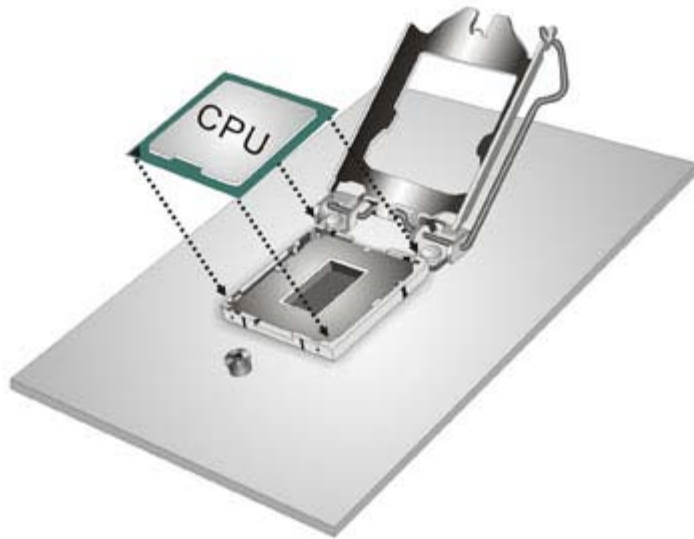

Figure 4-3: Insert the Socket LGA1356 CPU
- Step 7: Insert the CPU.** Gently insert the CPU into the socket. If the CPU pins are properly aligned, the CPU should slide into the CPU socket smoothly. See **Figure 4-3.**